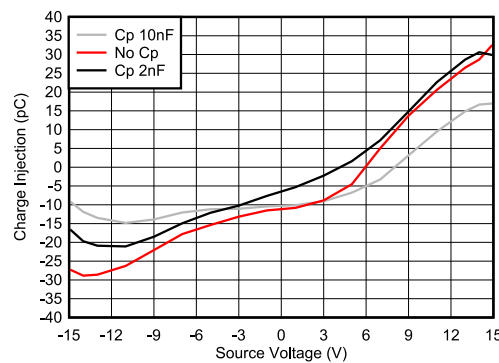

Figure 8-2. Charge Injection Compensation
The TMUX720x contains specialized architecture to reduce charge injection on the Drain (Dx). To further reduce charge injection in a sensitive application, a compensation capacitor (C_p) can be added on the Source (S). By design, the excess charge from the switch transition will be pushed into the compensation capacitor on the Source (S) instead of the Drain (D). As a general rule, C_p should be 20x larger than the equivalent load capacitance on the Drain (D). Figure 8-2 shows charge injection variation with different compensation capacitors on the Source side. This plot was captured on the TMUX7219 as part of the TMUX72xx family with a 100 pF load capacitance.